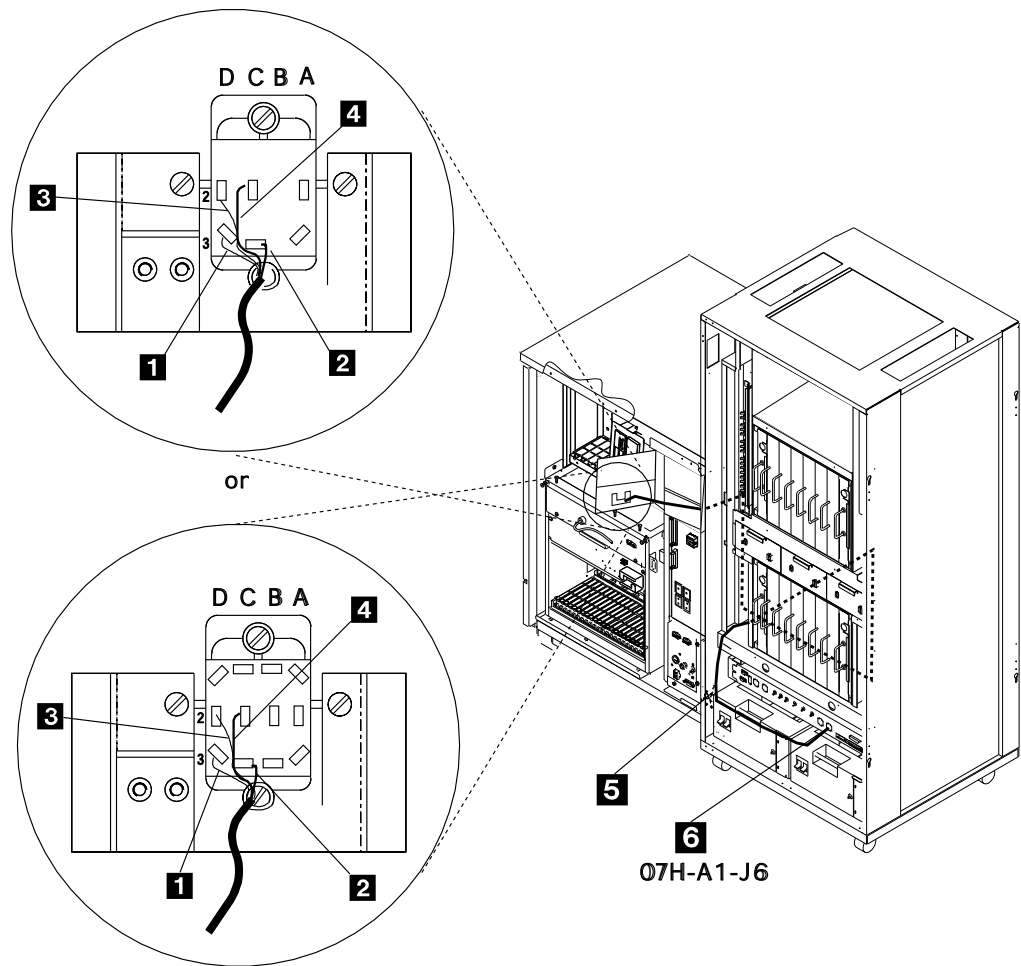

Figure 6-1. UEPO Cable Routing (3746-900 Attached to a 3745-17A)
- Step 2. ____ Connect the ground cable **5** to the 3746-900 frame using screws (PN 1621191) and lockwashers (PN 17G5852) refer to Figure 6-1 for the location.
- Step 4. ____ Open the 3745 control panel. Locate the unit emergency power OFF (UEPO) switch at the rear of the control panel (see Figure 6-1) .